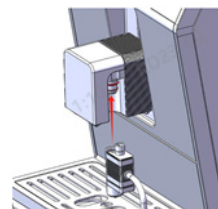

Fig. 4
Insert the system into the coffee delivery unit (2) of the coffee machine (Fig. 4), pressing it firmly until it clicks into place.